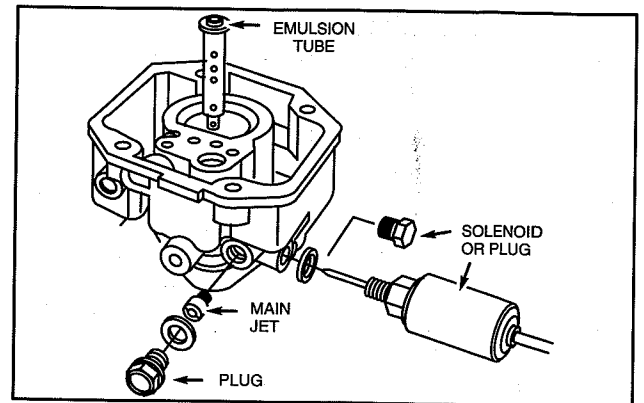

Fig. 101 - Remove Main Jet
6. Remove fixed main jet with jet screwdriver, Tool #19062, Fig. 101.